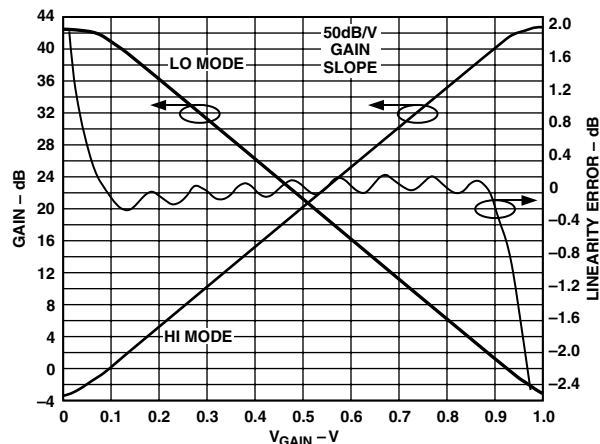

Figure 2. The gain function can be either an increasing or decreasing function of  $V_{GAIN}$  depending on the MODE pin.
The gain of the AD8367 can be an increasing or decreasing function of the control voltage,  $V_{GAIN}$ , depending on whether the MODE pin is pulled up to the positive supply or down to ground. When the MODE pin is high, the gain increases with  $V_{GAIN}$  as shown in Figure 2. The ideal linear-in-dB scaled transfer function is given by,
where  $V_{GAIN}$  is expressed in volts. Equation 1 contains the gain scaling factor of 50 dB/V (20 mV/dB) and the gain intercept of -5 dB which represents the extrapolated gain for  $V_{GAIN} = 0$  V. The gain ranges from -2.5 dB to 42.5 dB for  $V_{GAIN}$  ranging from 50 mV to 950 mV. The deviation from (1), that is, the gain conformance error, is also illustrated in Figure 2. The ripples in the error are a result of the interpolation action between tap points. The AD8367 provides better than  $\pm 0.5$  dB of conformance error over >40 dB gain range at 200 MHz and  $\pm 1$  dB at 400 MHz.
The gain is a decreasing function of  $V_{GAIN}$  when the MODE pin is low. Figure 2 also illustrates this mode which is described by